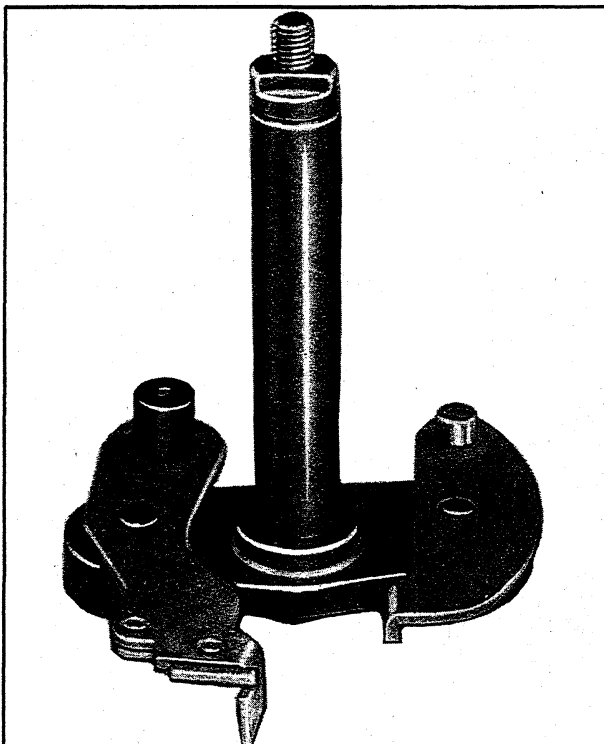

Fig. 99 - Lock and Drive Pawl Mechanism
1. Assemble lock and drive pawls to the shaft and drive plate assembly as shown in Figure 99.